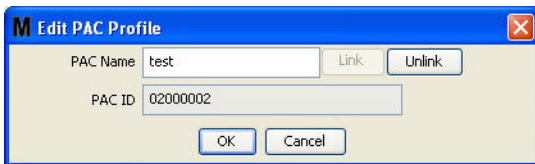

FIG. 130
- The Edit PAC Profile box shown in FIG. 130 displays. To change the PAC name, type a new name in the PAC Name box and click OK to close the screen and save the changes.